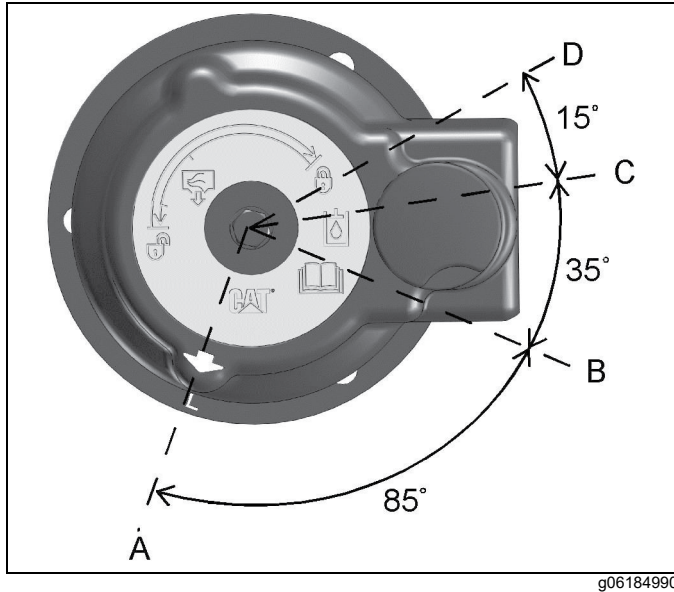

Figure 10-148: Filler Cap
5. Release the pressure that may be present in the return hydraulic circuit with the following procedure. Refer to Figure 10-148 for filler cap positions.
- a. Turn the filler cap counterclockwise and move the arrow from position (A) to position (B).
- b. Release the pressure for a minimum of 45 seconds by moving the arrow from position (B) to position (C).
- c. Move the arrow from position (C) to position (D).
- d. After the tank pressure is relieved, tighten the filler cap on the hydraulic tank to position (A).